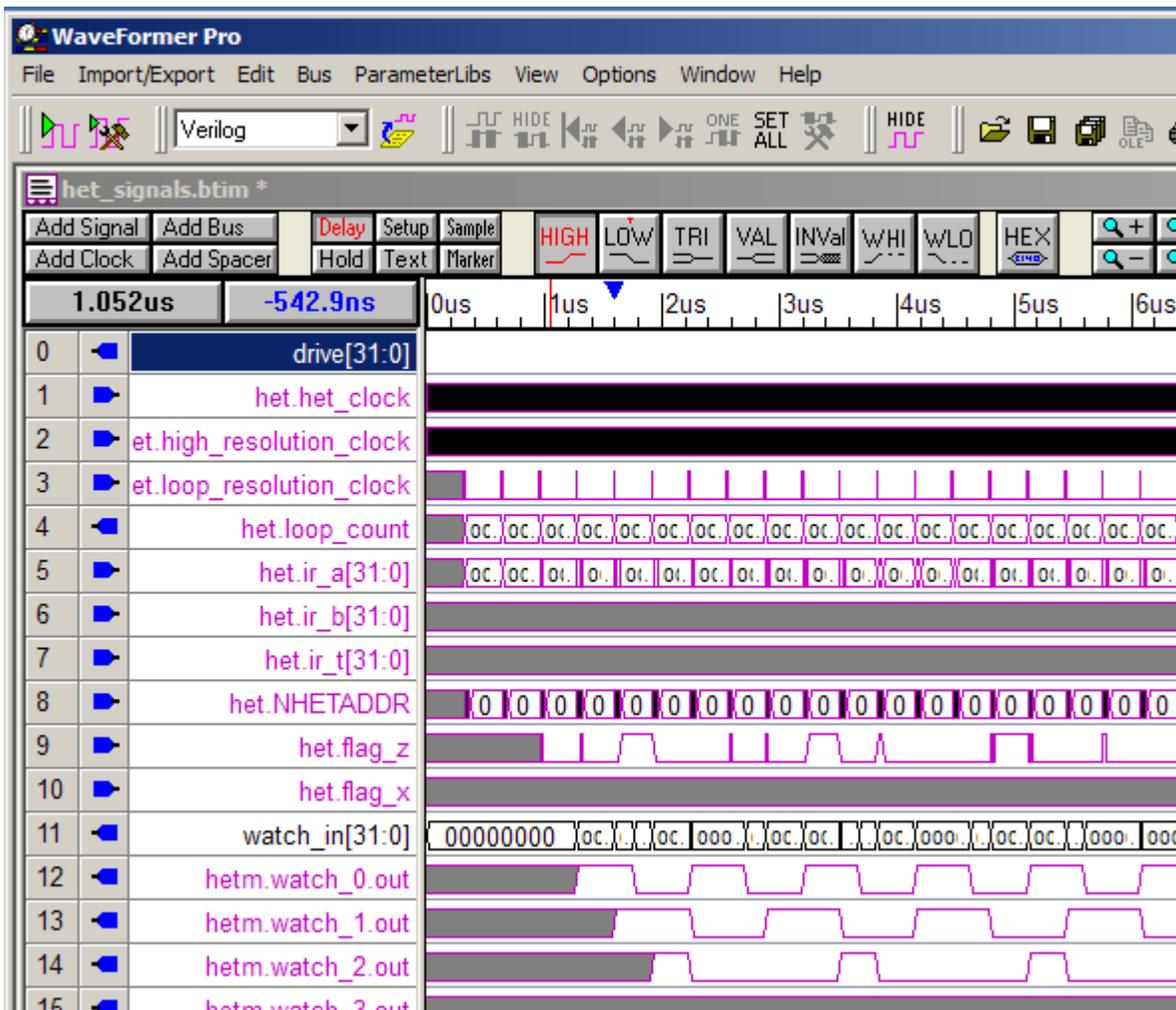

Figure 51. Expanded Waveform Shows Individual Signals for Pins 0,1,2
10. You should now see the individual signals for HET ports 0, 1, and 2 (see Figure 51).